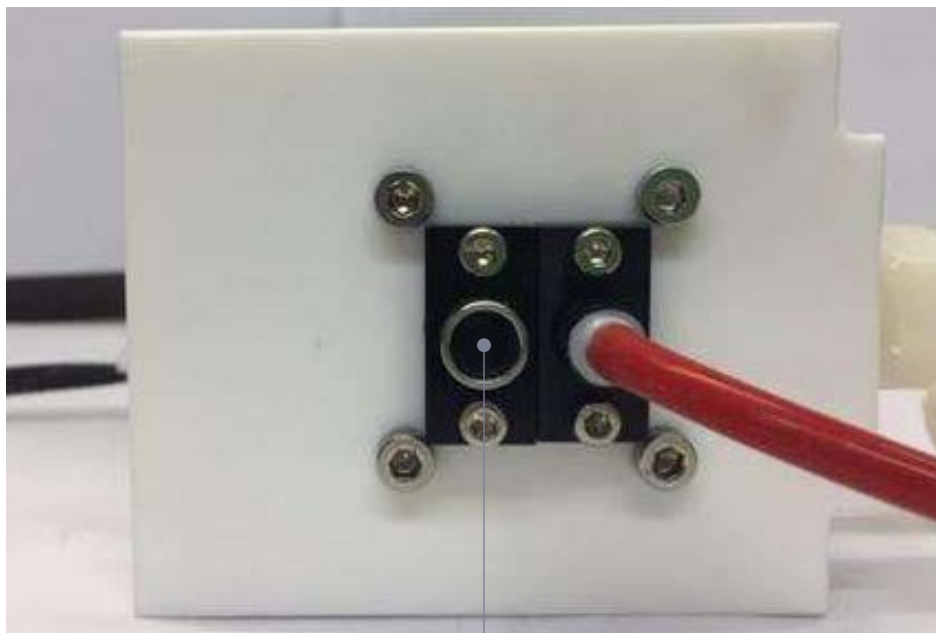

Figure 12
16. Install end caps with screws on both ends of the Pump Chamber Assembly **(figure 12)**.